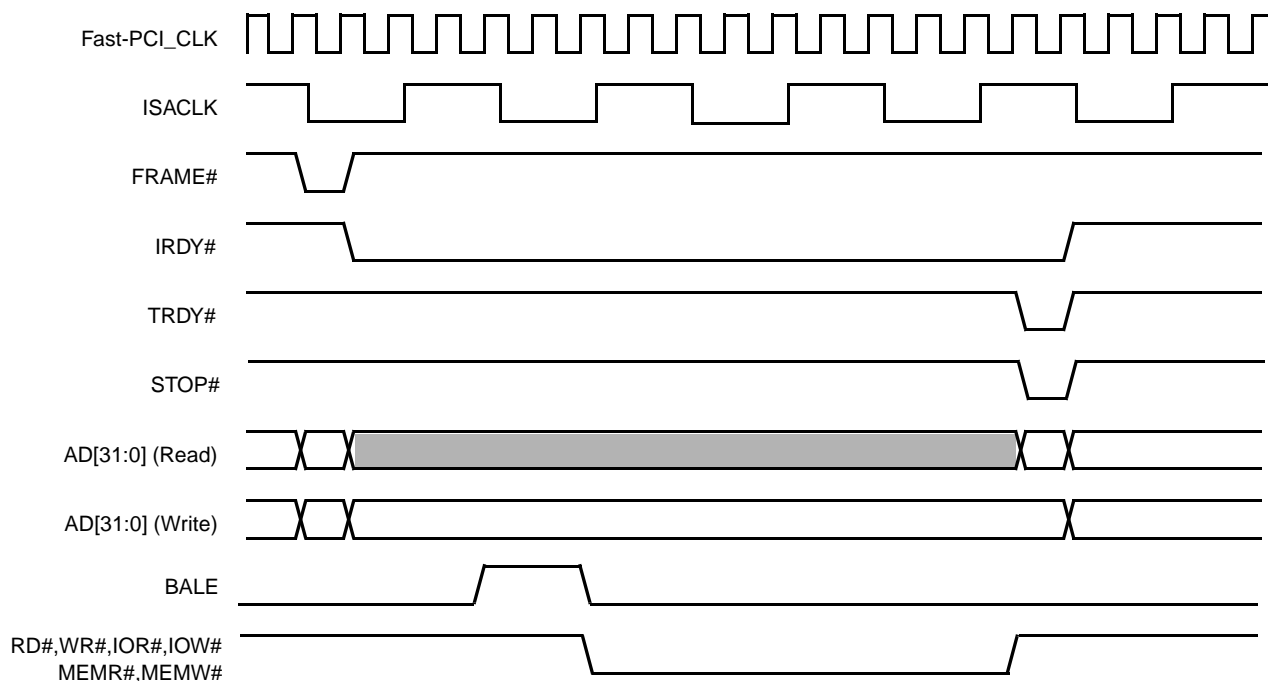

Figure 5-2. Non-Posted Fast-PCI to ISA Access
Figure 5-2 shows the relationship between a PCI cycle and the corresponding ISA cycle generated.
**Note:** Not all signals described in Figure 5-2 are available externally. See Section 2.4.5 "Sub-ISA Interface Signals" on page 41 for more information about which Sub-ISA signals are externally available on the SC1100.